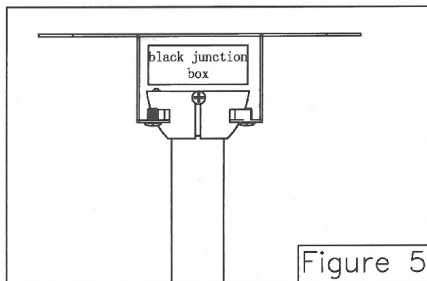

Figure 5
- Route wires through motor coupling cover, canopy screw cover and ceiling canopy. (Figure 5)
- Use bandage to extend into the wave filter mounting hole and the screw hole of the hanger bracket, and tighten bandage (for subsequent installation of the ceiling Canopy) . (Figure 5)